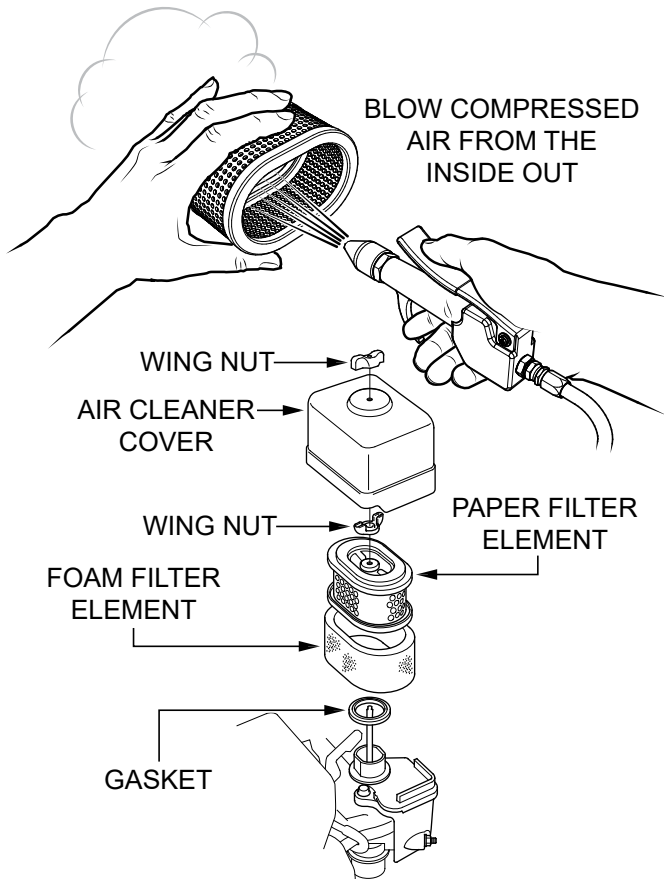

Figure 32. Engine Air Cleaner
1. Remove the **wing nut** from the **air cleaner cover**, then remove the cover (Figure 32).
2. Remove the **wing nut** from the air filter assembly (**paper filter element** and **foam filter element**), and remove the air filter assembly. See Figure 32.
7. Place the foam air filter element over the paper element, and reinstall the air filter assembly. Make sure the **gasket** (Figure 32) is in place beneath the air filter assembly. Tighten the air filter wing nut securely.